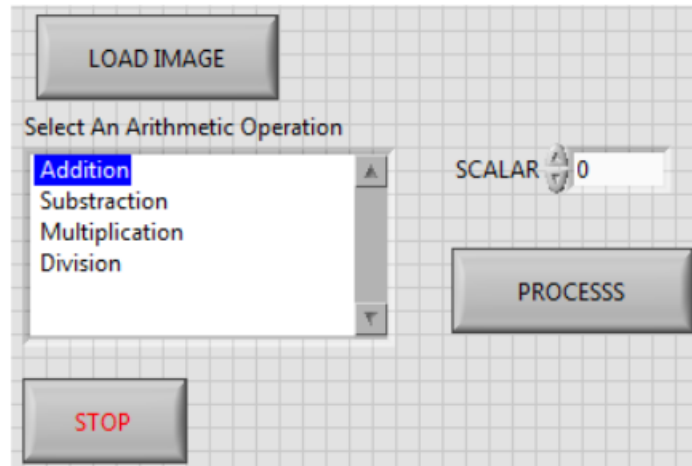

Figure 20: Front Panel of Exercise 5
1. Build a **Front Panel** as shown in Figure 20. Add a two **Boolean Buttons** and name each as **Load Image** and **Process**. Add a **Numeric Control** and name it as **Scalar**.